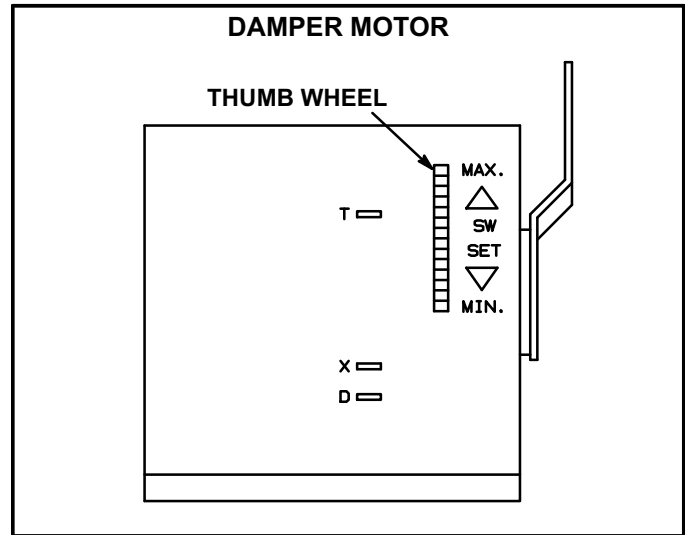

FIGURE 23
- 7- If fresh air percentage is less than desired, adjust thumb wheel higher. If fresh air percentage is more than desired, adjust thumb wheel lower. Repeat steps until calculation reads desired fresh air percentage. See figure 23.
Set damper minimum position in the same manner as economizer minimum position. Adjust motorized damper position using the thumb wheel on the damper motor. See figure 23. Manual damper fresh air intake percentage can be determined in the same manner.